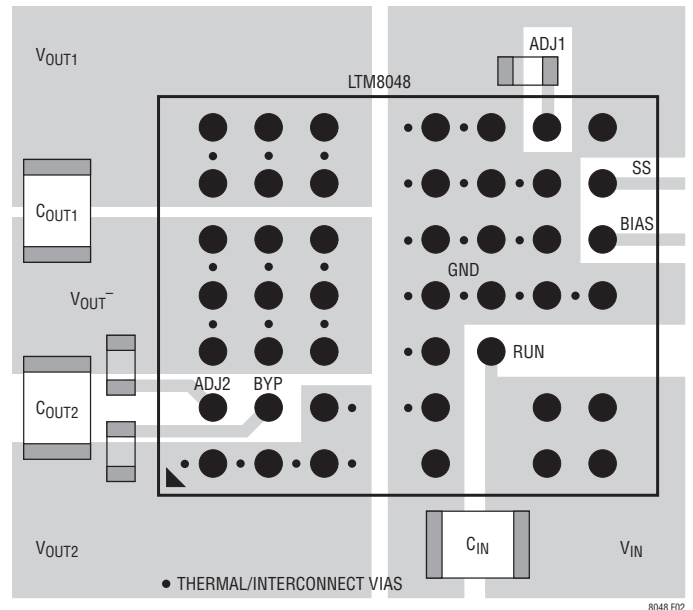

Figure 2. Layout Showing Suggested External Components, Planes and Thermal Vias
Most of the headaches associated with PCB layout have been alleviated or even eliminated by the high level of integration of the LTM8048. The LTM8048 is nevertheless a switching power supply, and care must be taken to minimize electrical noise to ensure proper operation. Even with the high level of integration, you may fail to achieve specified operation with a haphazard or poor layout. See Figure 2 for a suggested layout. Ensure that the grounding and heat sinking are acceptable.
6. Use vias to connect the GND copper area to the board's internal ground planes. Liberally distribute these GND vias to provide both a good ground connection and thermal path to the internal planes of the printed circuit board. Pay attention to the location and density of the thermal vias in Figure 2. The LTM8048 can benefit from the heat sinking afforded by vias that connect to internal GND planes at these locations, due to their proximity to internal power handling components. The optimum number of thermal vias depends upon the printed circuit board design. For example, a board might use very small via holes. It should employ more thermal vias than a board that uses larger holes.